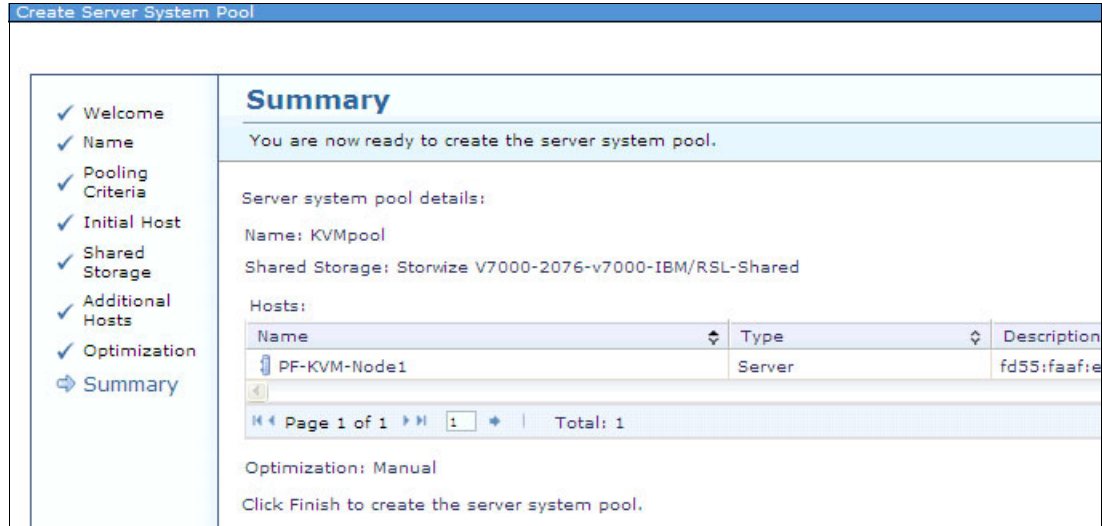

Figure 9-101 Checking the summary
10. Check the summary as shown in Figure 9-101.